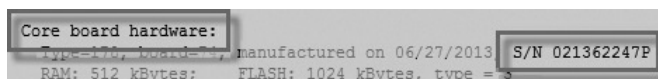

Fig. 34 — Example TV-RTU Serial Number
- A Module Status report (Modstat) under Core (or Main) board hardware (see Fig. 34 for an example).